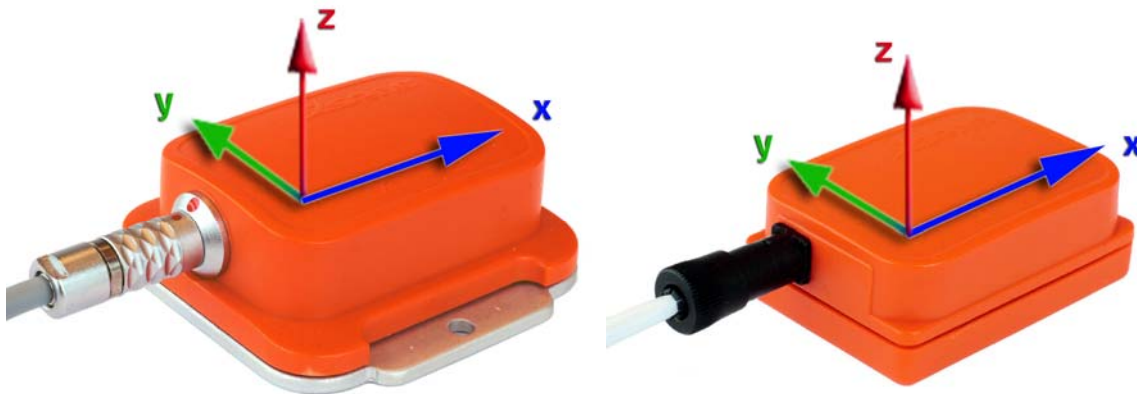

Figure 1 MTi and MTx with sensor-fixed co-ordinate system overlaid (S).
All calibrated sensor readings (accelerations, rate of turn, earth magnetic field) are in the right handed Cartesian co-ordinate system as defined in figure 1. This co-ordinate system is body-fixed to the device and is defined as the sensor co-ordinate system (S). The 3D orientation output is discussed below in section 2.2.
The non-orthogonality between the axes of the body-fixed co-ordinate system, S , is $<0.1^\circ$. This also means that the output of 3D linear acceleration, 3D rate of turn (gyro) and 3D magnetic field data all will have orthogonal XYZ readings within $<0.1^\circ$ as defined in figure 1.